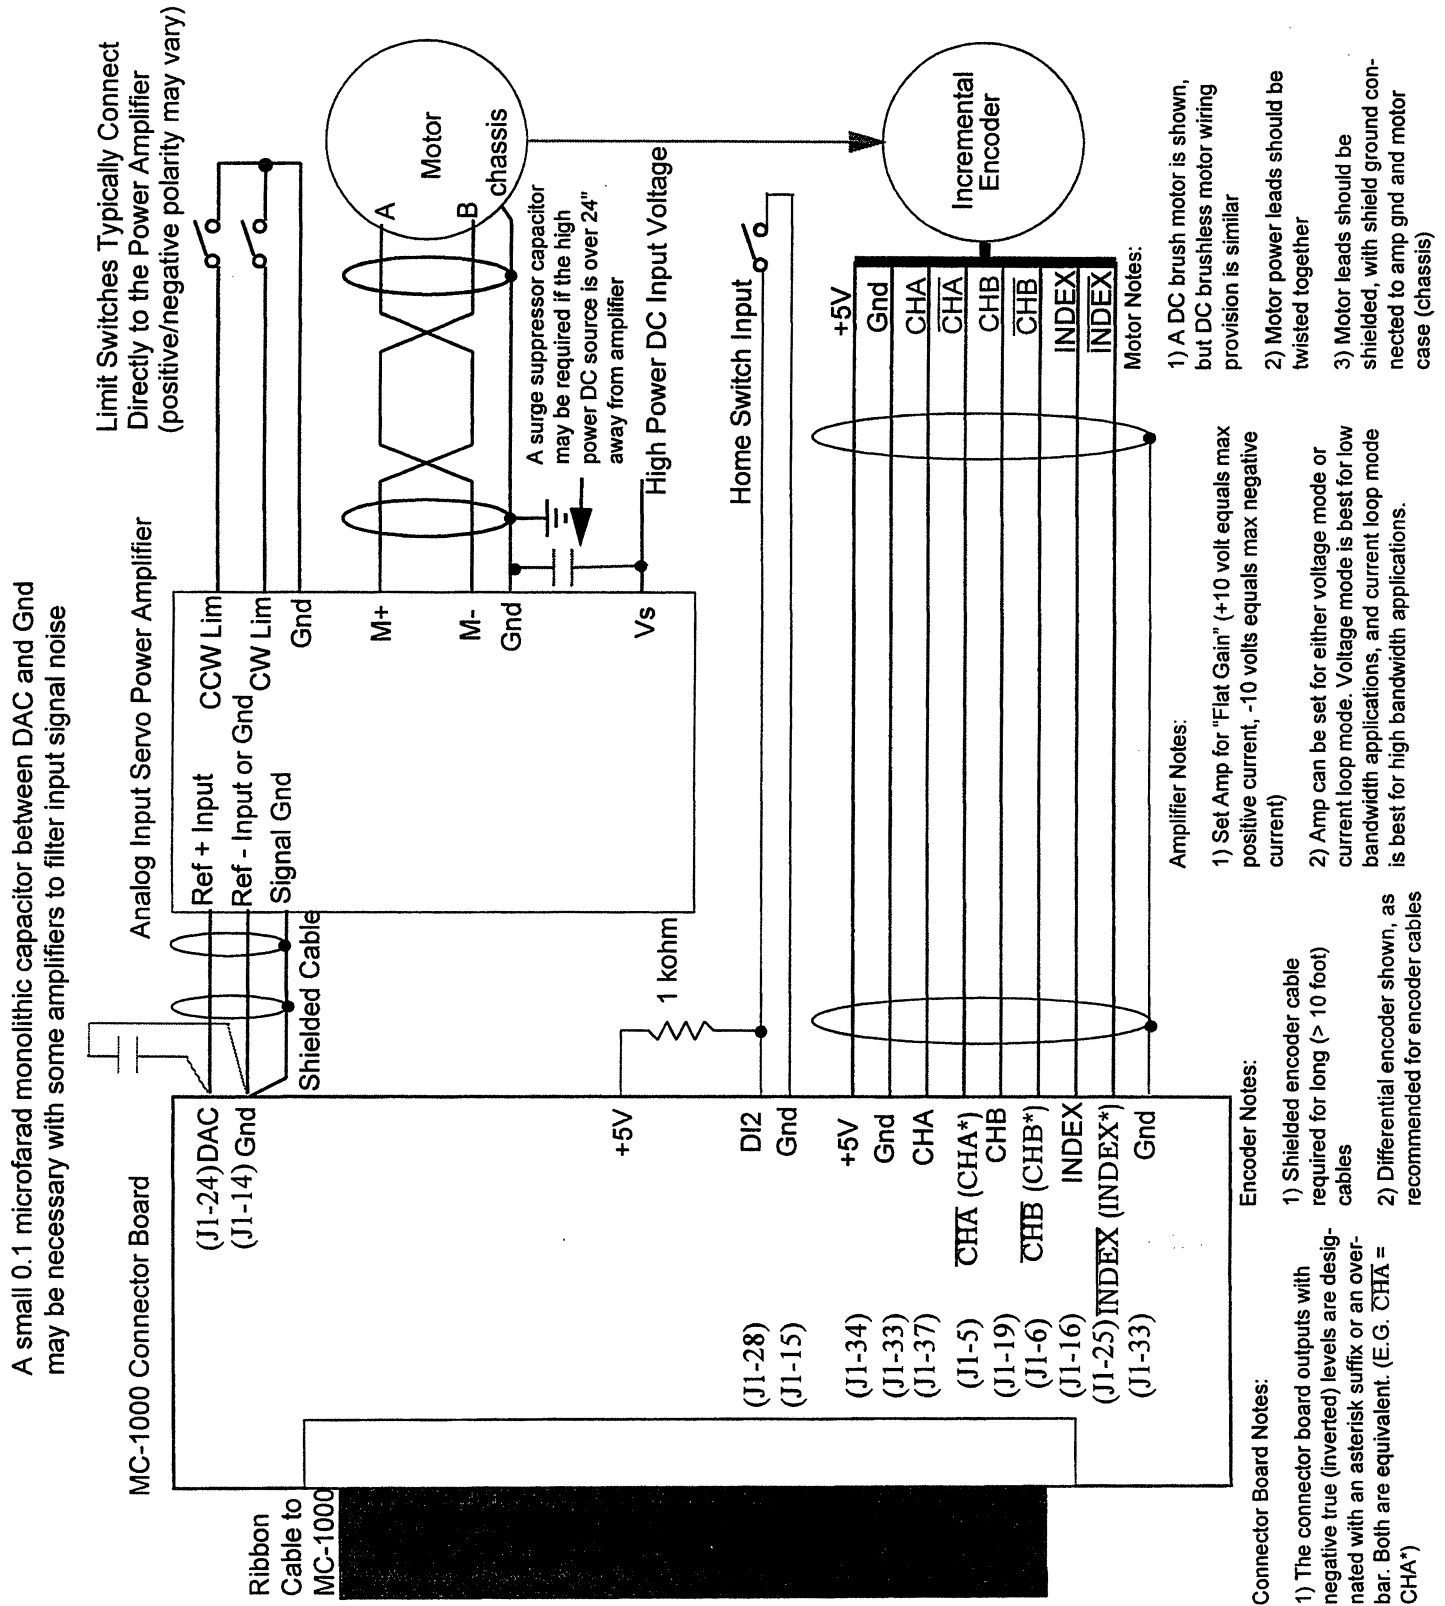
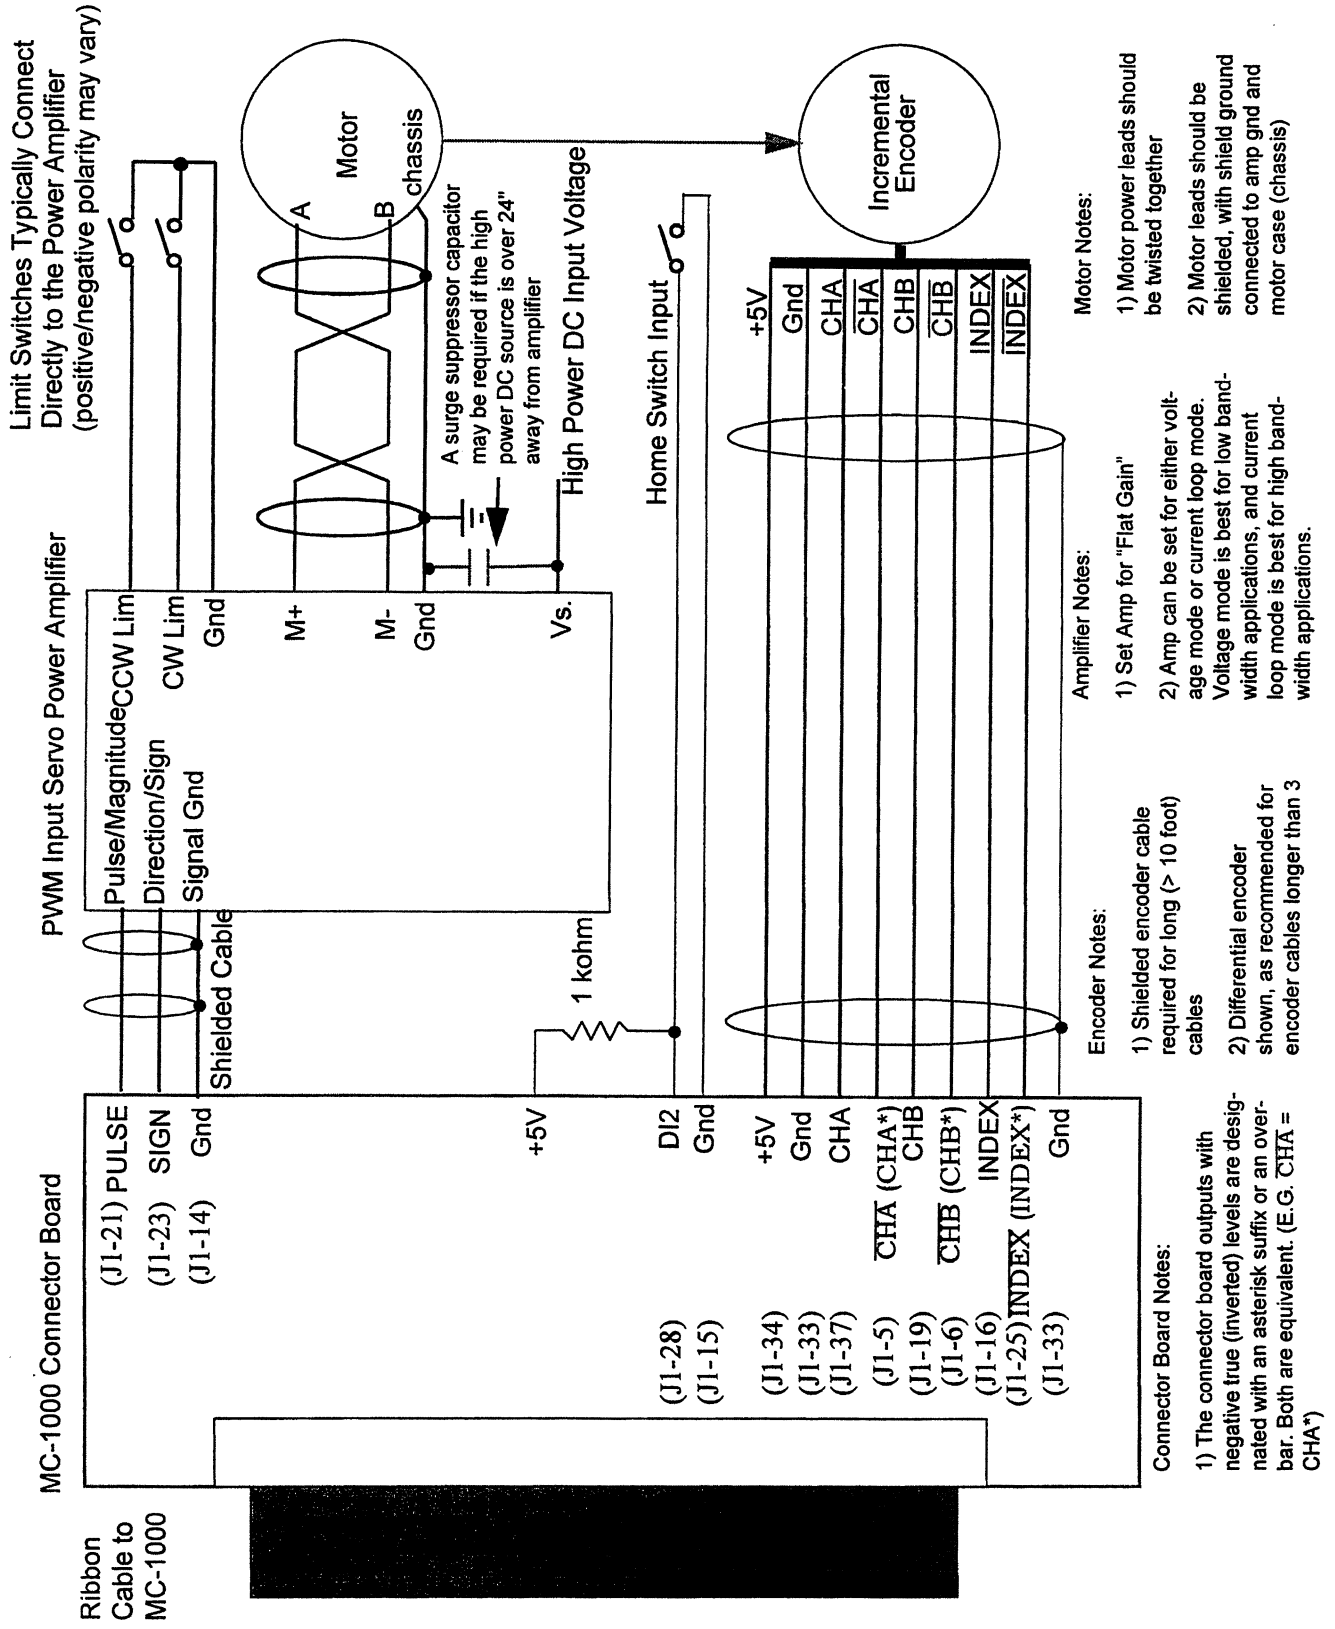

Figure 3 Connecting the MC-1000 to an Analog Input Servo Power Amplifier
Figure 4 Connecting the MC-1000 to a PWM input amplifier.
An analog input amplifier, typically with  $\pm 10$  volt input range, will require connecting the MC-1000 DAC voltage output and a common ground to the amplifier for the amplifier command signal. A diagram of this configuration is shown in Figure 3. Additionally it may be desirable to connect one of the digital outputs from the MC-1000 to the servo power amplifier as an enable input,
although this is generally not necessary. Figure 3 also illustrates some general tips on good design practices for connecting the amplifier, motor, encoder, etc.
A PWM input amplifier will require connecting the PULSE and SIGN and a common ground from the MC-1000 to the amplifier. The MC-1000 outputs, PULSE and SIGN, are driven by TTL buffered drivers (74LS244), and have drive capacities as shown in the electrical specifications. The PULSE is the command magnitude, with  $\pm 100$  count resolution and 20 kHz modulation frequency. The SIGN is the direction control signal, that is a TTL logic low level (0) for reverse direction, and TTL logic high (1) for the positive direction. A block diagram of this configuration is shown in Figure 4.
The MC-1000 requires incremental encoder feedback to derive the actual position and velocity of the servo actuator (motor). Various types of encoders are possible, but some are better than others depending on your applications. The main distinctions are that the encoder must be an incremental encoder, and not an absolute encoder. The MC-1000 can also accommodate single ended, TTL level output encoders, or differential line driver type output encoders. The single ended TTL level encoders are acceptable if short encoder cables are used, typically less than 3 feet. An encoder with a differential line driver should be used if longer encoder cables are required. Also the MC-1000 can accept encoder signals for two (A,B) or three (A, B, Index) channel incremental encoder inputs. Two is sufficient for normal operation, while three are required if the commutation option is to be used, or if the fine home option is used, allowing the motor to initialize it's initial position with both a limit switch input and an index pulse occurrence. The encoder connections. Proper jumpering of JP1, JP2, and JP3 is required as discussed in section 2.2.2 to define the encoder input type as either single ended TTL levels or differential line driver type. Also proper shielding of the encoder cable is recommended, especially for long encoder cable installations, and Figure 3 and Figure 4 illustrate good practice for encoder cable shielding.
terminal block connection approach was illustrated in Figure 3 and Figure 4. If a single ended TTL level encoder is used, the complimentary inputs  $\overline{CHA}$ ,  $\overline{CHB}$ , and  $\overline{INDEX}$  are simply not connected.